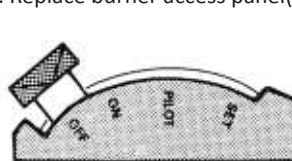

FIGURE 1
2. Move selector arm to the "off" position. (See figure 1.)